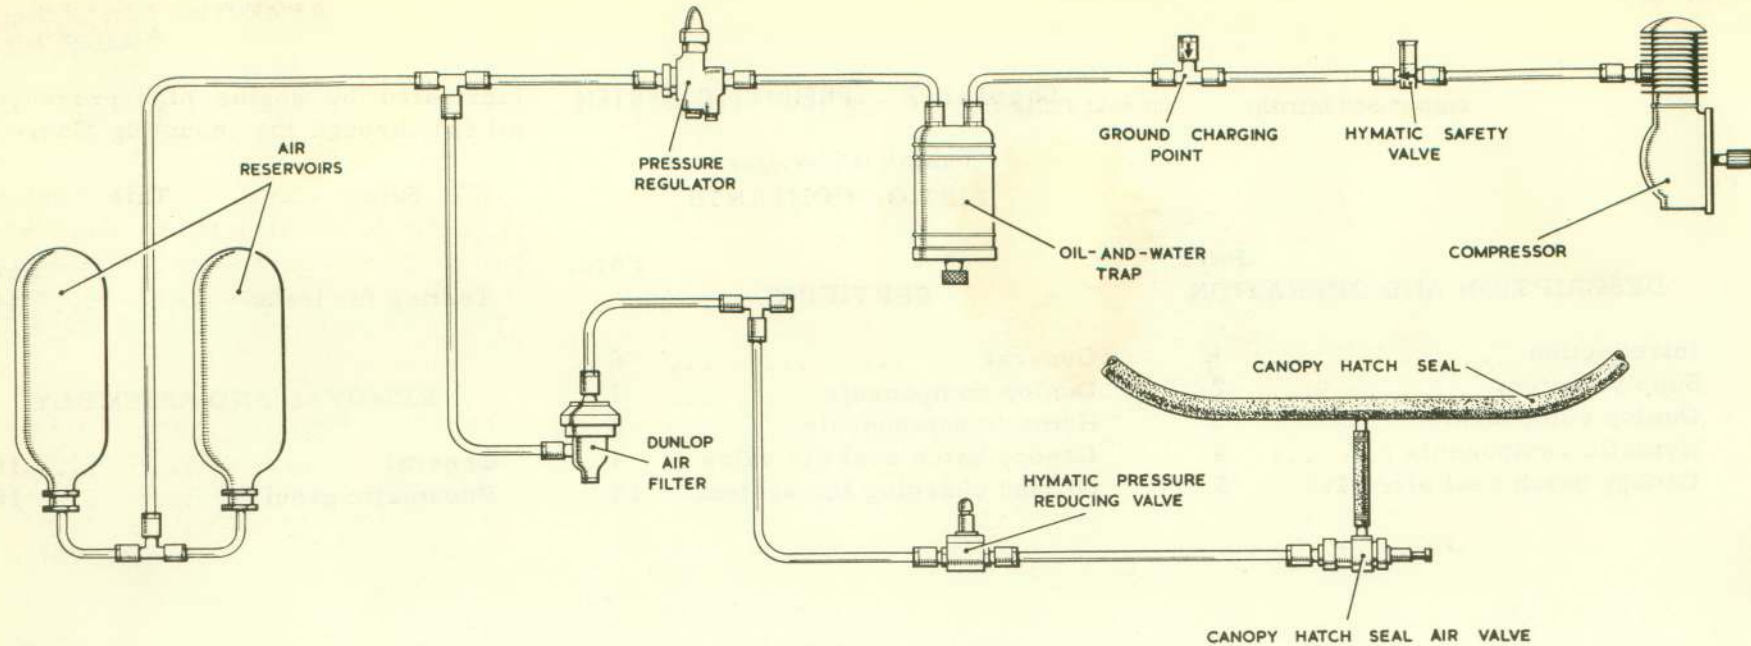

Fig. 1. Diagram of pneumatic system
1. The pneumatic system provides controlled pressure for operating the canopy hatch seal, and, on aircraft of pre-Mod. N. 894 standard, the R. A. T. O. equipment jettison mechanism. Fig. 1 illustrates the relative positions of the components in the system.